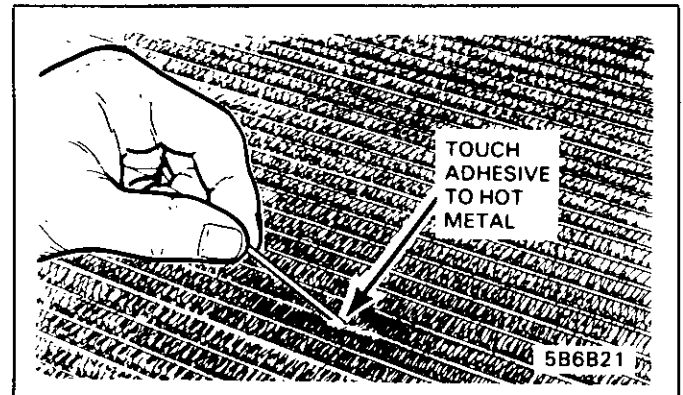

Fig. 33 Applying Hot Melt Adhesive
- Withdraw the torch and rub the adhesive stick on the repair area (Fig. 33). The adhesive will flow at a temperature of approximately 500°F (260°C). If the stick doesn't start to melt, remove it and reapply the heat. **Do not heat the stick directly with a flame. High heat will burn and char the adhesive.**